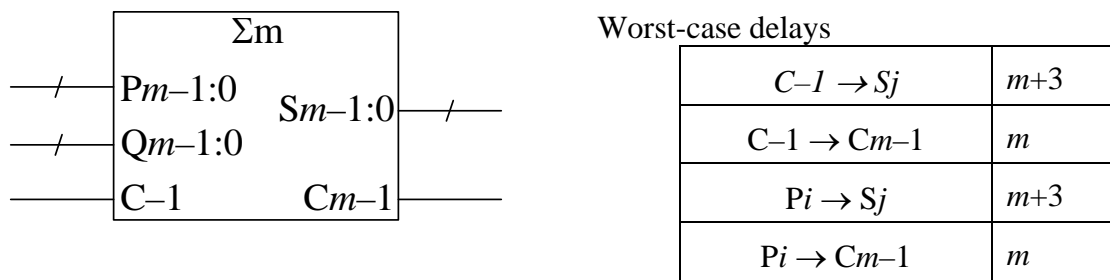
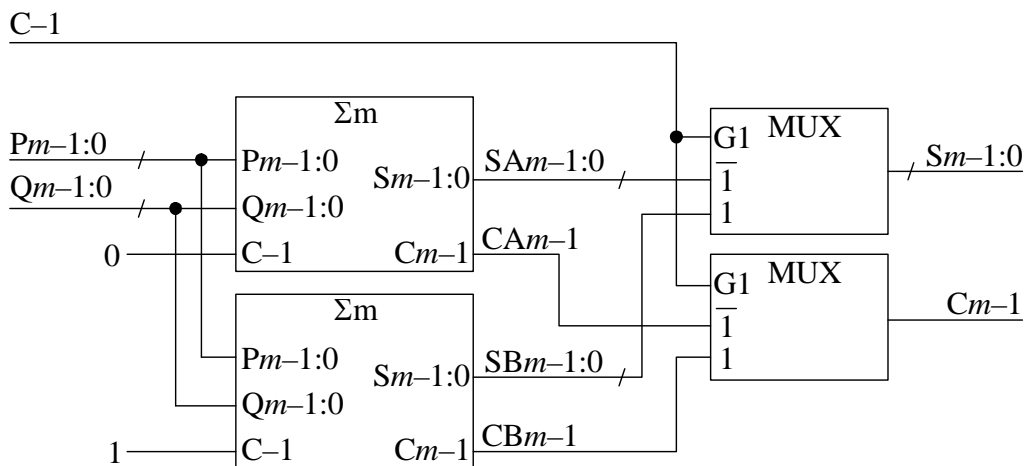

Figure 3
Figure 4
2. Figure 3 shows the symbol and worst case propagation delays (in units of 1 gate delay) for an m -bit full adder. P_i , Q_i and S_j denote any of the P, Q or S bits respectively.
The circuit of Figure 4 uses two full adders together with two multiplexers. The C_{-1} inputs of the two full adders are connected to logic 0 and logic 1 levels respectively. In the question below, the phrases *simple adder block* and *complex adder block* refers to the circuits of Figure 3 and Figure 4 respectively.